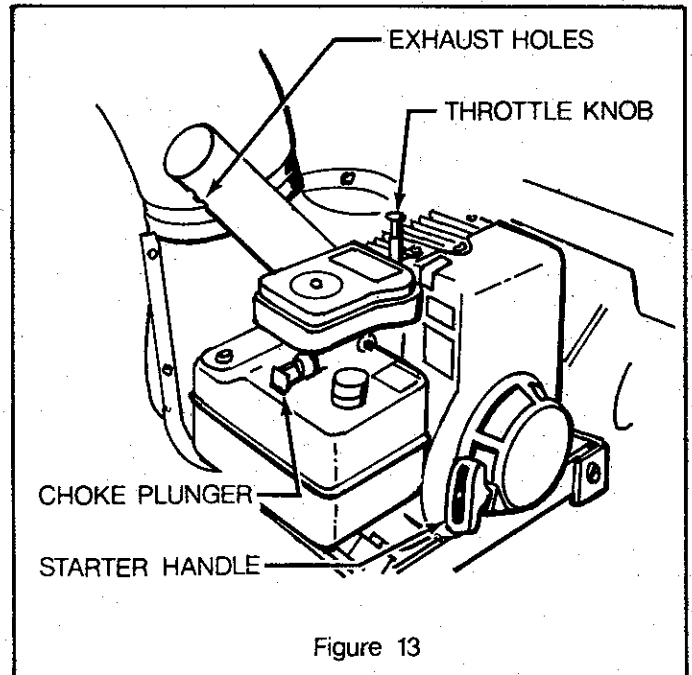

Figure 13
2. Check to insure that the muffler exhaust holes are positioned away from the engine (Figure 13).
- a) Pull the choke plunger out to "CHOKE" position. (Figure 13.)
- b) Pull the throttle knob all the way up (Figure 13).
- c) Grasp the recoil starter handle firmly in your right hand and pull sharply straight out to start the engine (Figure 13).
- d) After the engine starts, return the choke plunger to the off position (Figure 13).